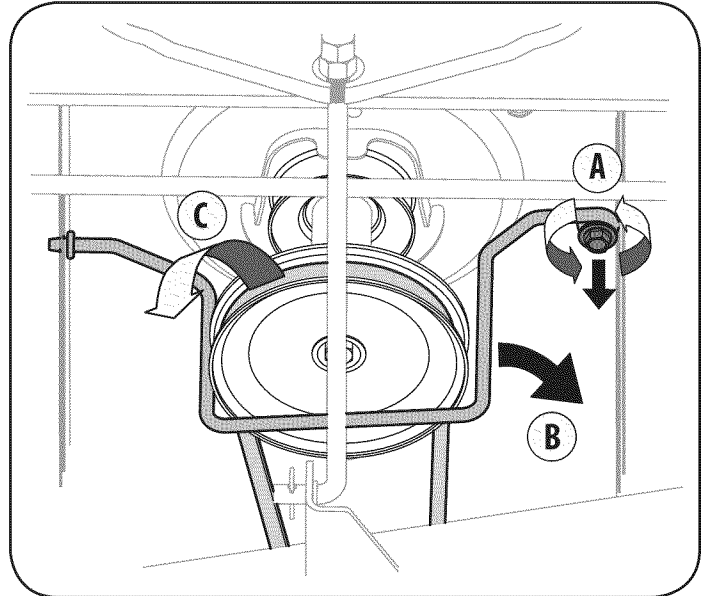

Figure 16
3. Remove the self-tapping screw (A) that secures the belt-keeper rod from around the tractor's PTO pulley, then remove the belt keeper rod (B). See Figure 16.
4. Remove the belt (C) from around the tractor's PTO pulley. See Figure 16.